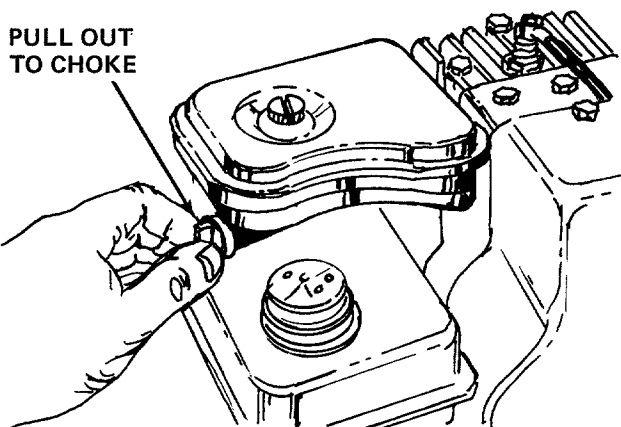

FIGURE 10
3. Pull the choke control out to "choke" position if necessary. See figure 10.